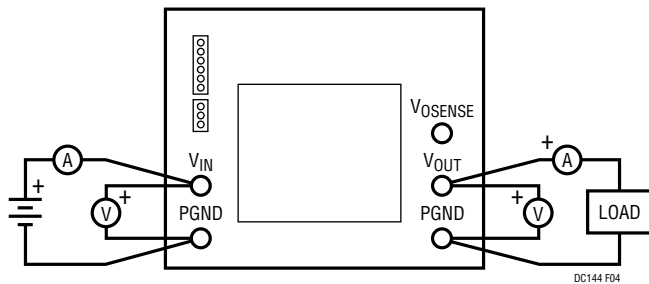

Figure 4. Correct Measurement Setup
- Connect the load between the V_{OUT} and GND terminals. Refer to Figure 4 for proper measurement-equipment setup.
When trying to measure voltage regulation, remember that all measurements must be taken at the point of regulation. This point is where the LTC1433's control loop looks for the information to keep the output voltage constant. This information occurs between Pin 10 and Pin 5 of the LTC1433. These points correspond to the output terminals of the demonstration board. Test leads should be attached to these terminals. **Measurements should not be taken at the end of test leads at the load.** Refer to Figure 4 for proper monitoring equipment configuration.